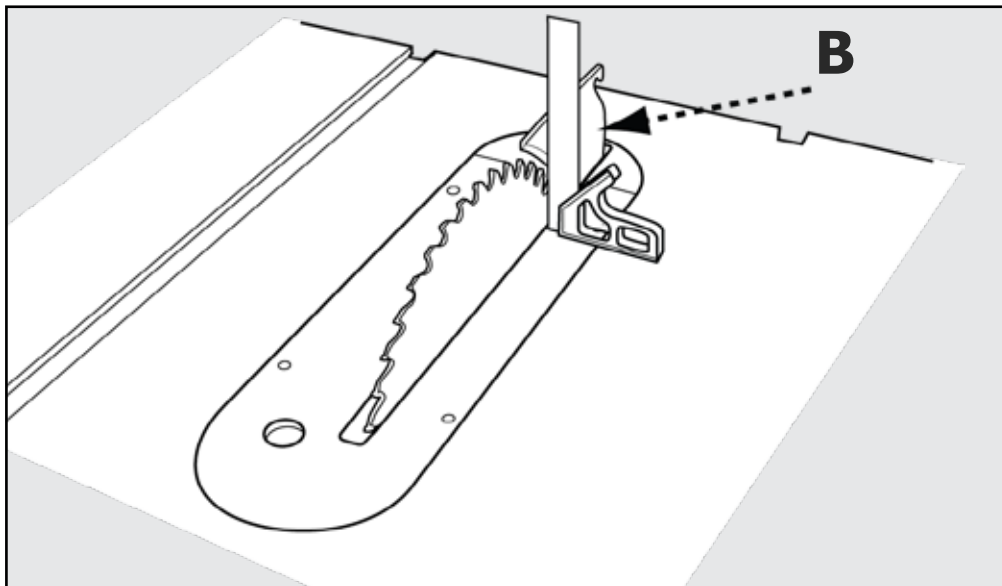

FIGURE 39
Place a framing square (B) on the table surface and against both blade and riving knife. The framing square should be in full contact with the blade face and riving knife. See Figure 39.